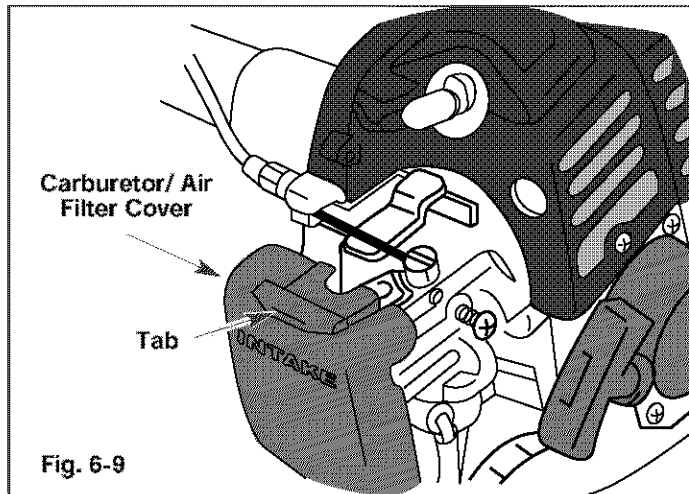
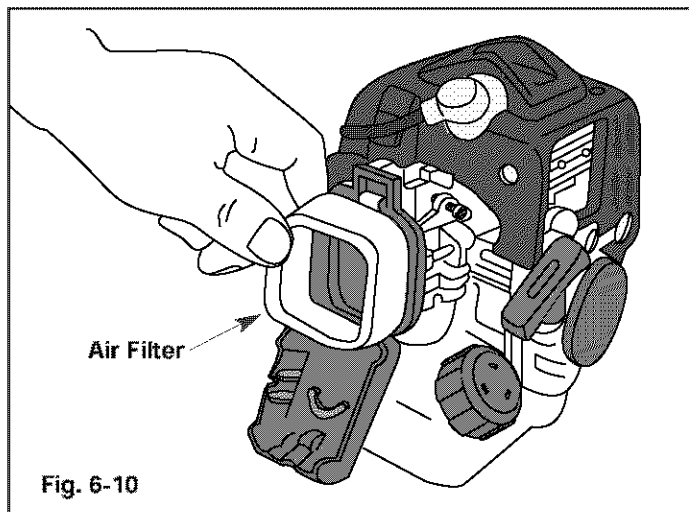

Fig. 6-9
Fig. 6-10
1. Remove the carburetor/air filter cover by pushing on the tab on top of the cover (Fig. 6-9).
2. Remove the air filter (Fig. 6-10).
6. Reinstall the filter (Fig. 6-10) and air filter cover (Fig. 6-9).